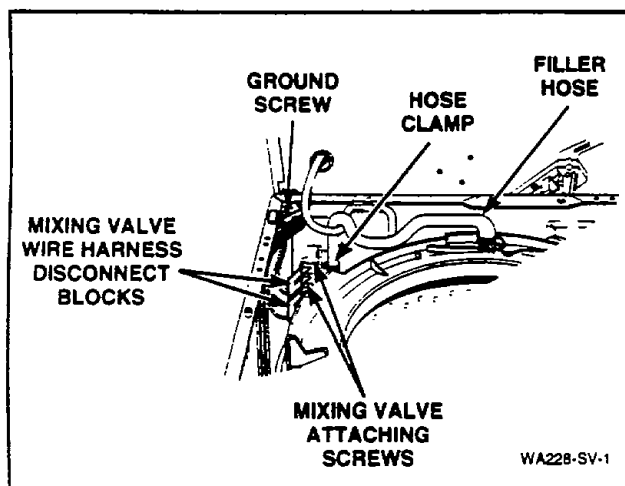

Figure 46
- Remove two screws holding mixing valve to mounting bracket at rear of washer cabinet, *Figure 46*.
- Pull the mixing valve out toward front of washer far enough to permit disconnecting water inlet and fill hoses from mixing valve, *Figure 46*.
- Remove wires and quick disconnect blocks from mixing valve solenoid terminals, *Figure 46*.